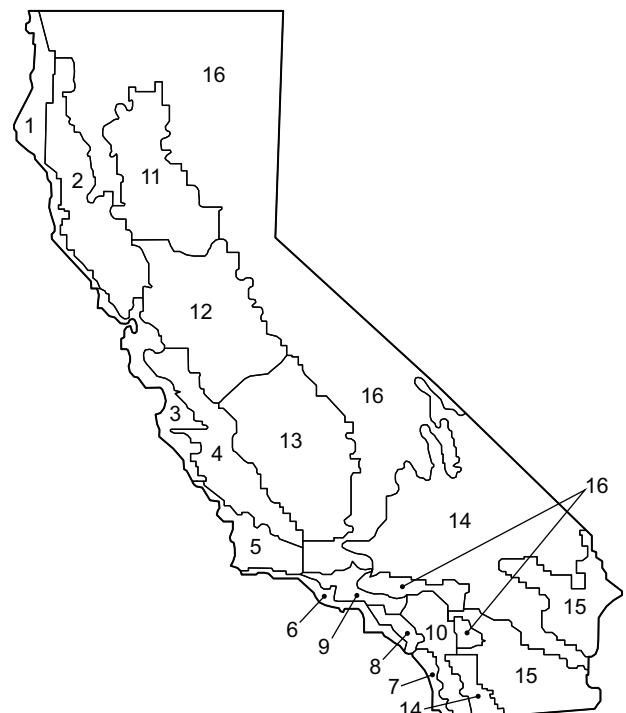

Fig. 66 — California Title 24 Zones
b. See Fig. 66 for map of California Title 24 zones.